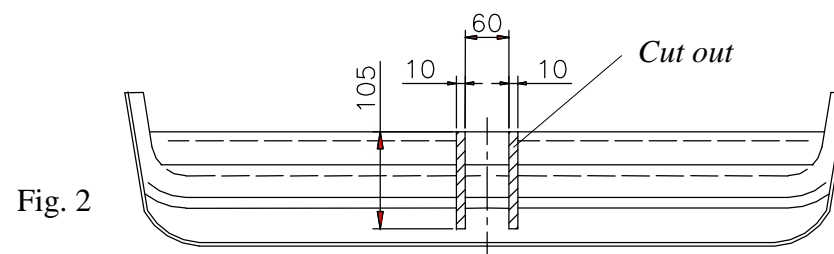

Fig. 2
5. Slide the main bar of the towbar (pos. 1) to chassis members, then fix it using bolts M10x35mm (pos. 5) and big washers (pos. 7).
6. Cut the bumper according to the fig. 2.
8. Fix body of the automat (pos. 6) and the socket plate (pos. 3) using bolts M12x25mm (pos. 4) from accessories. Place tow-ball (pos. 2) according to supplied instruction.